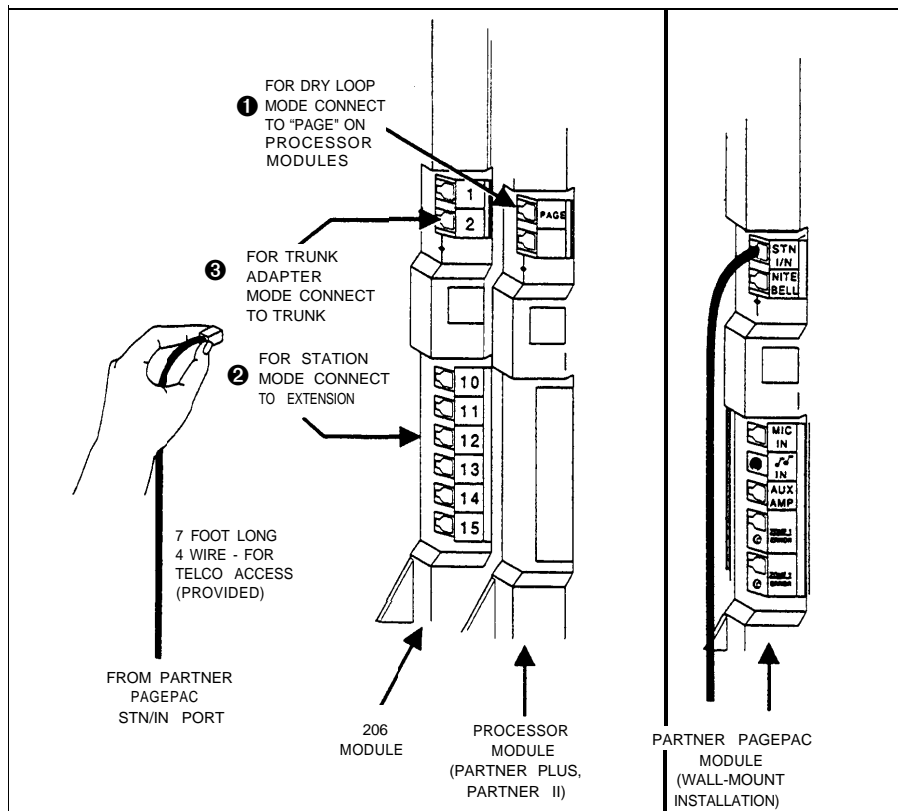

Figure 2-2 Cable Connections for Selected Interface Mode
The green light below the night bell jack on the module should come on (see Figure 2-2). If it does not, see "Troubleshooting" in Appendix A.
Dry Loop Mode permits the PARTNER PagePac paging system to be connected to the Page Port on the PARTNER II and PARTNER Plus system's Processor Module. This option frees up one of the system station ports (extensions). See Table 2-1 and Figure 2-2 for cabling instructions.
Station Mode can be used when there is an available station port (extension) that will not be needed by the PARTNER Plus or PARTNER II system. See Table 2-1 and Figure 2-2 for cabling instructions.
Trunk Adapter Mode can be used in the event that neither a Station Port nor a Page Port is available. In this case connections are made to one of the PARTNER Plus or PARTNER II system trunk (line) ports and presents a dry loop interface to the PARTNER PagePac paging systems. This option requires the use of an AT&T PARTNER PagePac Trunk Adapter with included power supply (PEC 5335-301). Table 2-1 and Figure 2-2 provide cabling information. See further Trunk Adapter installation instructions on pages 2-13 through 2-15.
1. Use a standard 7-foot, 4-pin RJ-11 modular cable (provided) to connect the PARTNER Plus or PARTNER II system to one of the following PARTNER PagePac modules (refer to Table 2-1 and Figure 2-2). Connect the modular cable from the PARTNER PagePac module's "STN I/N" port to:
- ❶ – Page Port on processor module (for Dry Loop Mode) or
- ❷ – Station Port (for Station Mode), or
- ❸ – Trunk Port (for Trunk Adapter Mode).